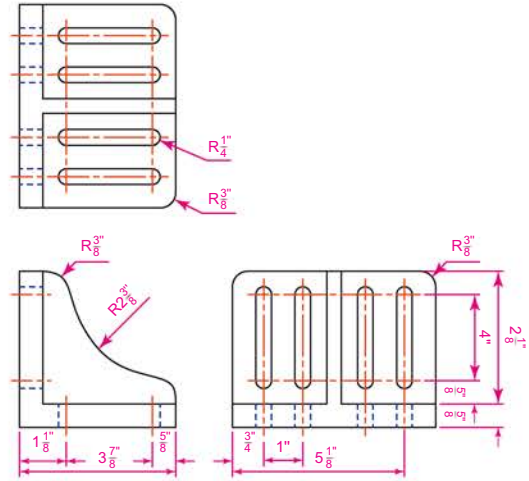

Fig. 8.31 Exercises 6 and 7 – an orthographic projection of the angle plate
- 6. Construct the orthographic projection given in Fig. 8.31.